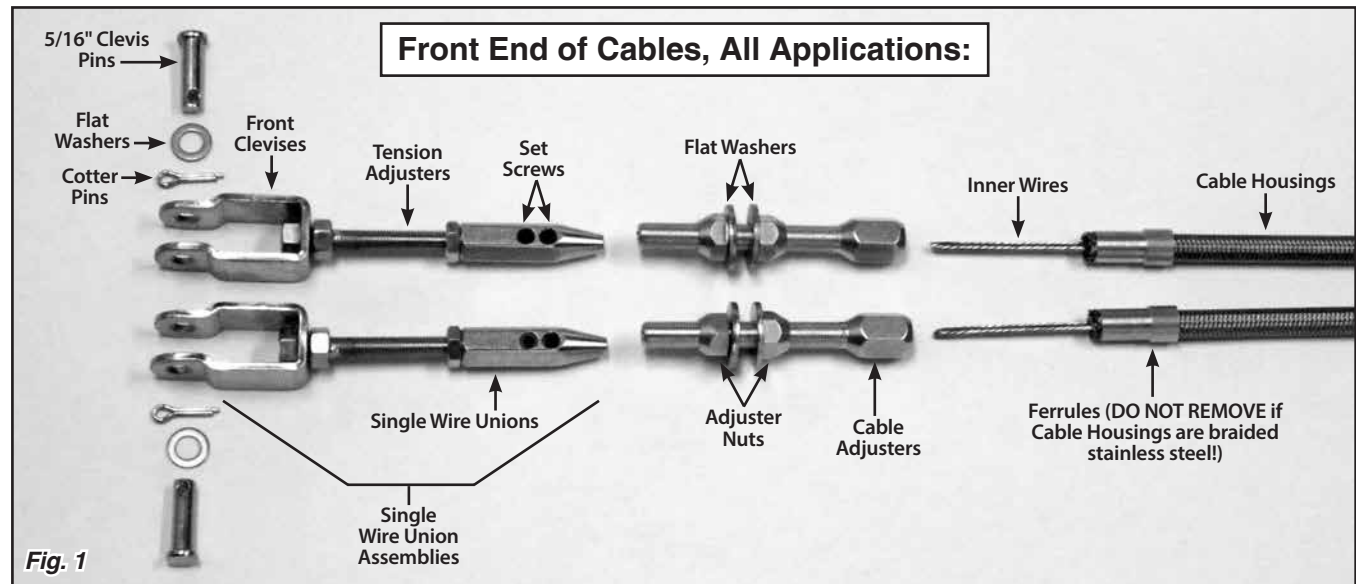

Fig. 1
*Refer to Figs. 1, 2 and 3 for the component names.*